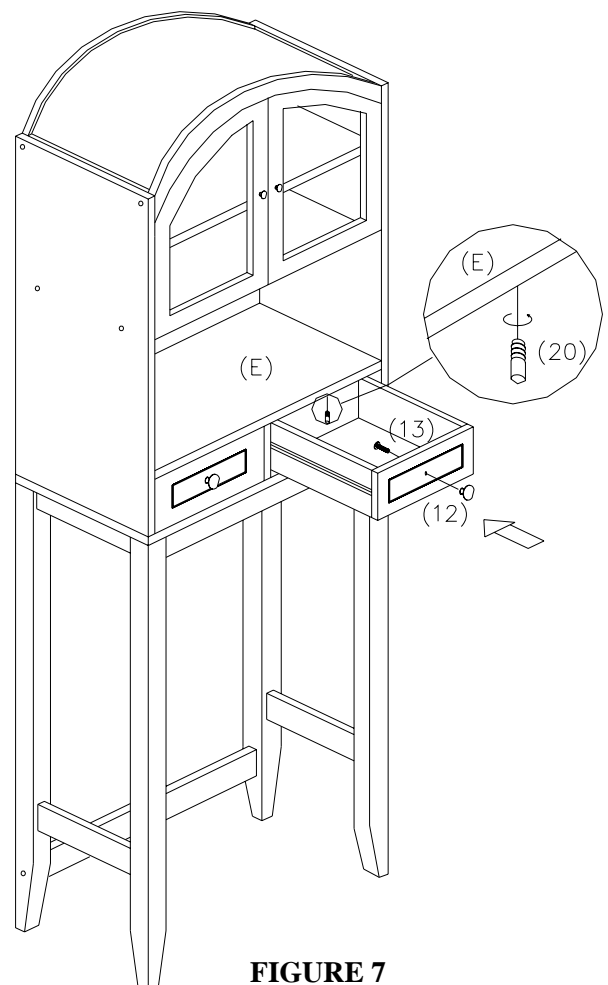

FIGURE 7
11. INSERT SMALL MACHINE SCREWS (Ø5/32"X5/8") (13) THROUGH PREDRILLED HOLES ON BACK OF DRAWER FRONT PANELS (F) AND TIGHTEN INTO METAL KNOBS (12). TIGHTEN METAL STOPPERS (20) INTO PREDRILLED HOLES ON LOWER FIXED SHELF (E). AND PLACE THE ASSEMBLED DRAWERS INTO SPACE OF UNIT. (AS SHOWN IN FIGURE 7)